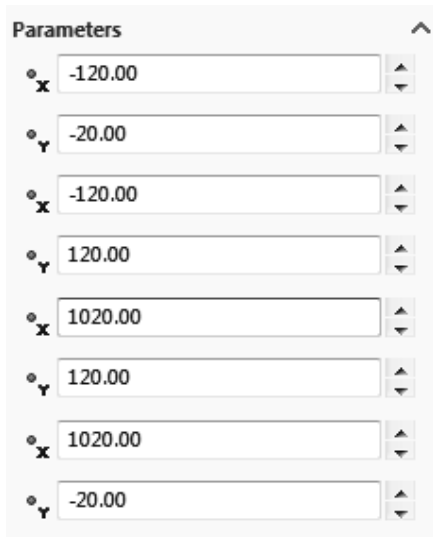

Figure 2.4 Dimensions of second larger rectangle
4. Repeat steps 2 and 3 but create a larger rectangle outside of the first rectangle. Dimensions are shown in figure 2.4.